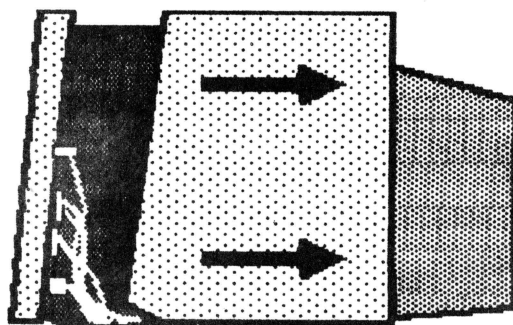

FIGURE 3
7. Slide the case straight back and away from the monitor (Figure 3). Set it aside.